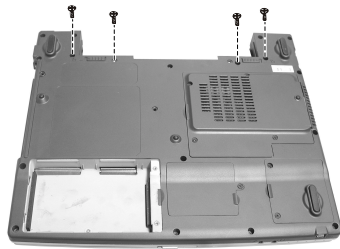

Figure 2-34 Remove four screws
3. Remove four screws that secure the system board. Then lift it up form the housing. (Figure 2-34)